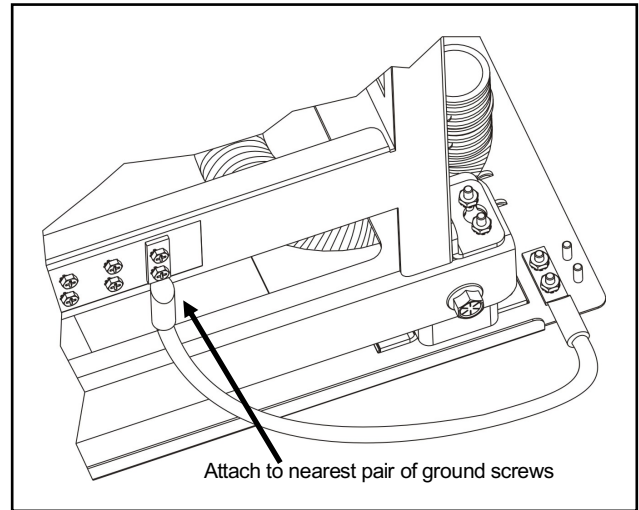

Figure 6. Ground strap attachment
- ① Locate the included ground strap and two of the #10-32 hex nuts. Referring to Figure 6, fasten one of strap's the dual-hole connectors to the **nearest pair of ground bus screws** on the wall rack, using screws supplied with the wall rack.
- ② Fasten the other end of the ground strap to the grounding studs on the SOA-10U frame with both hex nuts. Ground studs are located on both the top and bottom of the frame, accommodating either orientation of the wall rack ground bus. **Use the ground studs on the SOA-10U framed that are nearest to the ground bus of the wall rack.** This provides the proper amount of slack in the ground cable, allowing the swing-out mechanism to operate correctly.
- ③ Install a dual ground lug (customer provided) with holes on 5/8" centers to the adjacent ground studs on the SOA-10U, use two of the included #10-32 hex nuts to fasten the lug securely.
- ④ Connect a ground wire of appropriate gauge to the ground lug, and attach the other end of the wire to a bonded ground point, per local procedures for network equipment.
- ① Use the SOA-10U tie-down points to hold equipment cables in place with tie-downs or other fasteners that are appropriate for the cable type.
- ② Fiber jumpers or pigtails can be fed through the corrugated flexible tubes that are pre-attached to the SOA-10U frame.